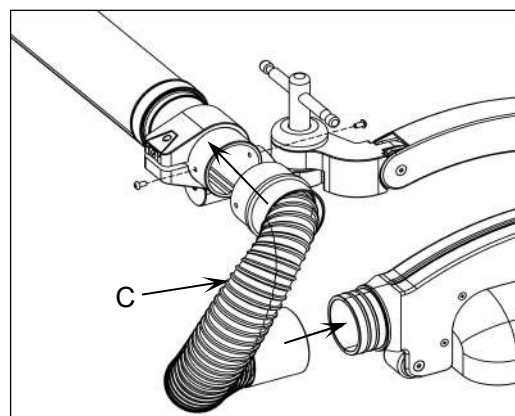

Fig. 13
2. As shown in Fig. 13, install the corrugated hose assembly (C). First, mount the hose assembly onto the front end of the cantilever arm (the mounting screws are pre-installed on the cantilever), then connect the hose assembly to the guard.